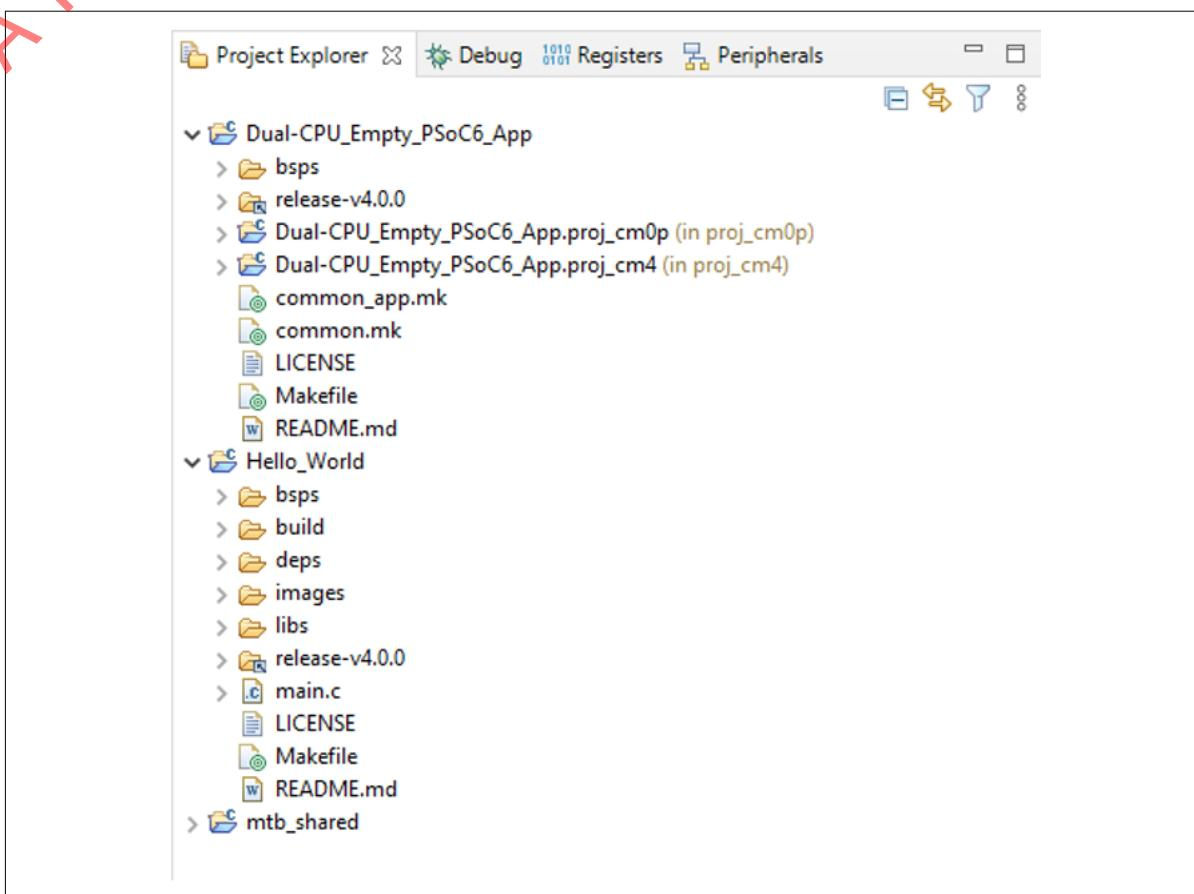

Figure 405 Workspace in ModusToolbox™ containing both single-core and dual-core applications
5. In Figure 405, you see both applications created in the workspace.